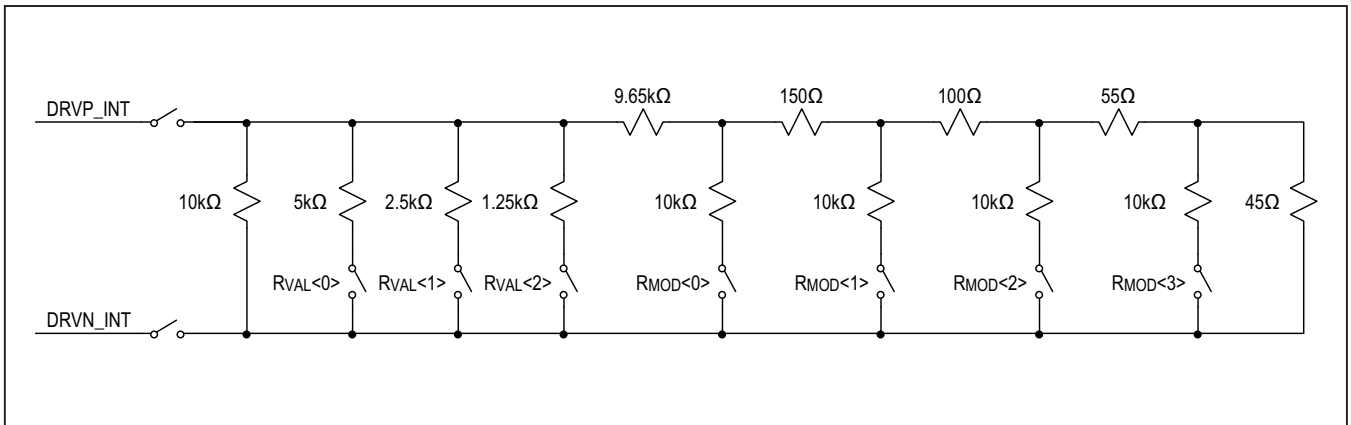

Figure 11. Programmable Resistive Load Topology
The programmable resistive load on the DRVP/DRVN pins allows a built in self-test of the current generator (CG) and the entire BioZ channel. Refer to Figure 11 for implementation details.